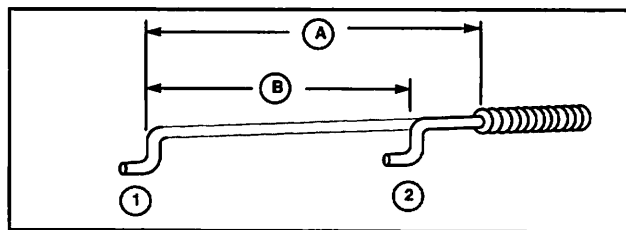

Fig. 54
Choke-A-Matic® is standard on Model Series 92900 (type nos. lower than 0500), and Series 92500 (type nos. lower than 600) engines. Remote control must be of type in which control wire moves 2-1/8" (54 mm) (A) out of casing when control lever is moved from "STOP" position (2) to "CHOKE" or "START" position (1) A minimum travel of 1-3/8" (35 mm) (B) is required when remote control is mounted, Fig. 54.